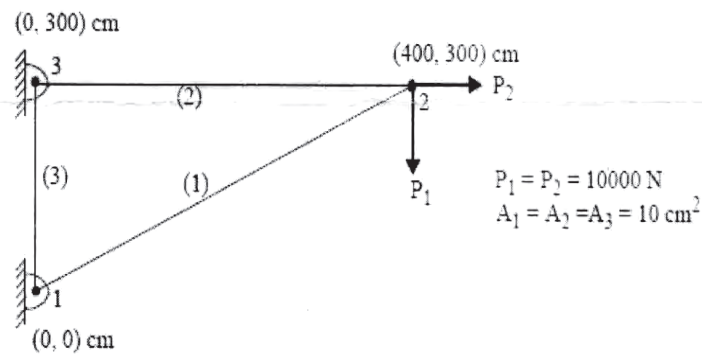

Fig. 4a
**Q4) a)** For the plane truss as shown in fig. 4a, determine the following. Each element has  $E = 20 \times 10^6 \text{ N/cm}^2$ . **[10]**